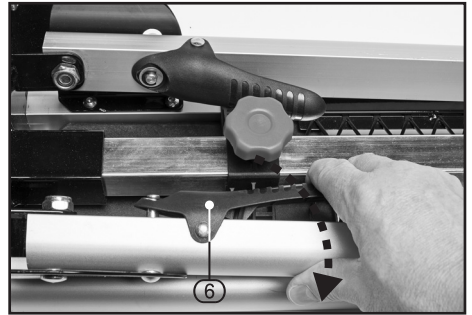

FIG.3
8.2 UNFOLD THE WORK LEGS – FIGS.3 – 4
- Place the mitre saw stand on a flat surface with the folded legs (5) facing up.
- Depress the leg locking lever (6) and rotate the leg until it clicks and locks into the open position.